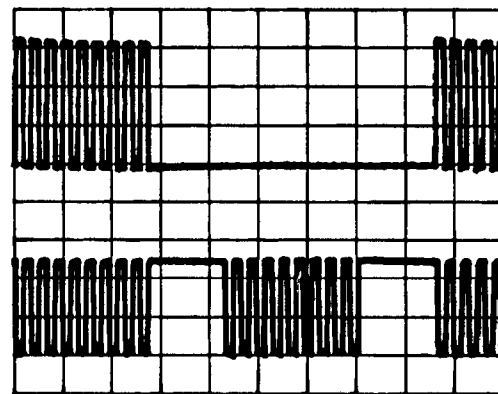

Figure 8-30. XA2A11C-7, NCLK 2
6. Connect channel 2 of the oscilloscope to XA2A11C-7, NCLK 2. The waveform should be as shown in figure 8-30.